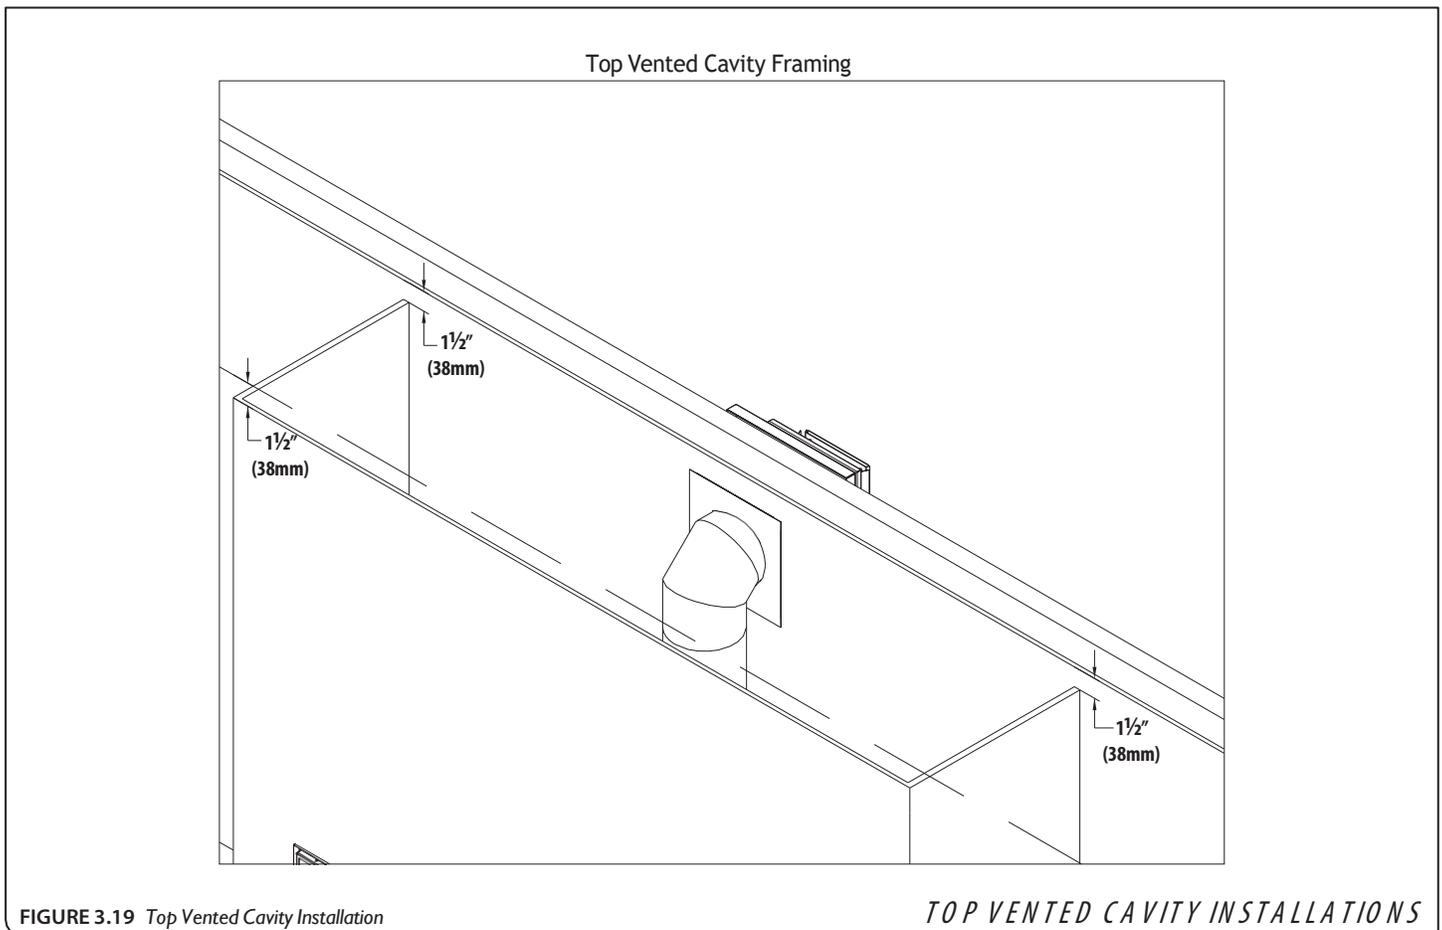

FIGURE 3.19 Top Vented Cavity Installation
- **FIGURE 3.19** shows the minimum 1-1/2" (38mm) clearance from the fireplace enclosure top to the ceiling, on all three sides of the enclosure.